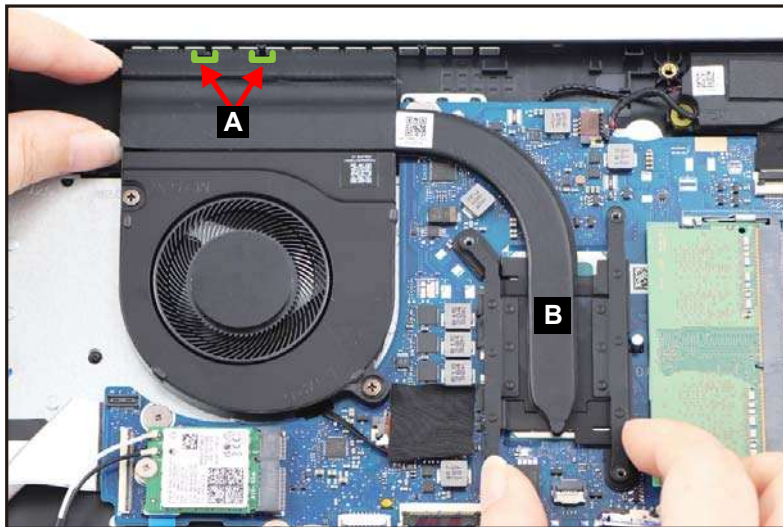

Figure 3-105. Replacing the Heatsink
3. By aligning with the upper tabs (A), place the heatsink (B) on the mainboard and top assembly (Figure 3-105).